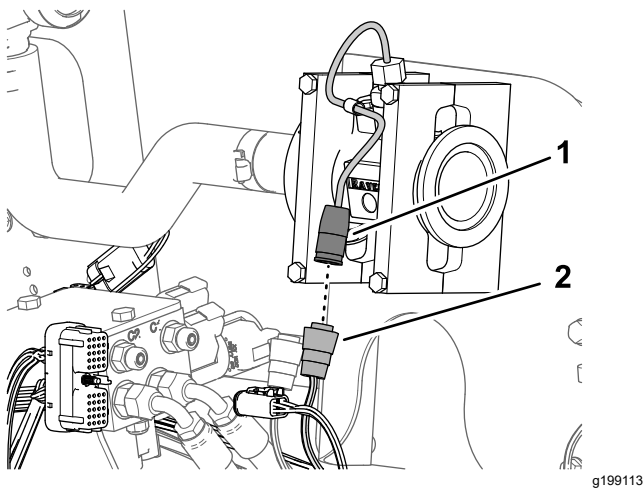

Figure 88
1. Connect the 3-socket electrical connector of the 89 cm (35 inch) kit sprayer-harness branch labeled FLOW METER into the 3-pin connector of the flow meter (Figure 88).